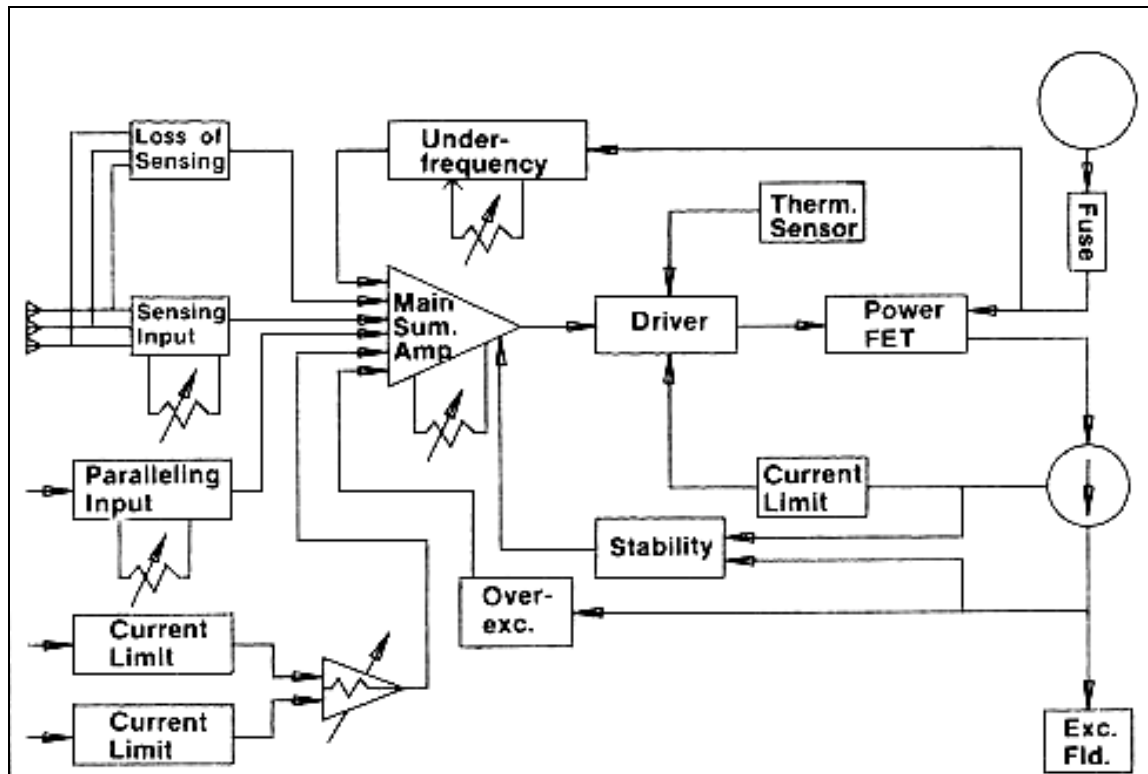

FIGURE 3A PM100 and PM200 Block Diagram
There are four basic function blocks to the MagnaMax Voltage Regulator. These blocks are the sensing input circuit, the main summing amplifier, the pulsed driver circuit, and the power output switching circuit (Figure 3A).
There are six protection features (Figure 3A): (1) loss of sensing, (2) underfrequency, (3) overexcitation, (4) overtemperature, (5) field current limit, and (6) generator current limit (model PM200 only).